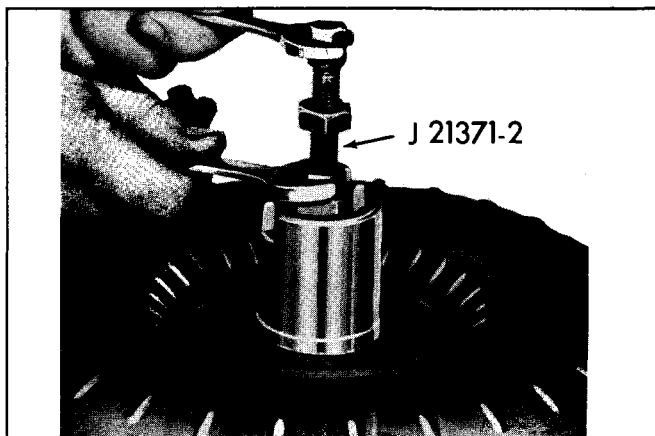

Fig. 7G-143 Installing End Play Tool J 21371-2
- b. Install collet end of End Play Tool J 21371-2 into converter hub until it bottoms, then tighten its brass nut counterclockwise to 5 lb. ft. torque (Fig. 7G-143).
- c. Install Tool J 21771-3 and, while preventing brass nut from turning, tighten hex nut to 3 lb. ft. torque (Fig. 7G-144).